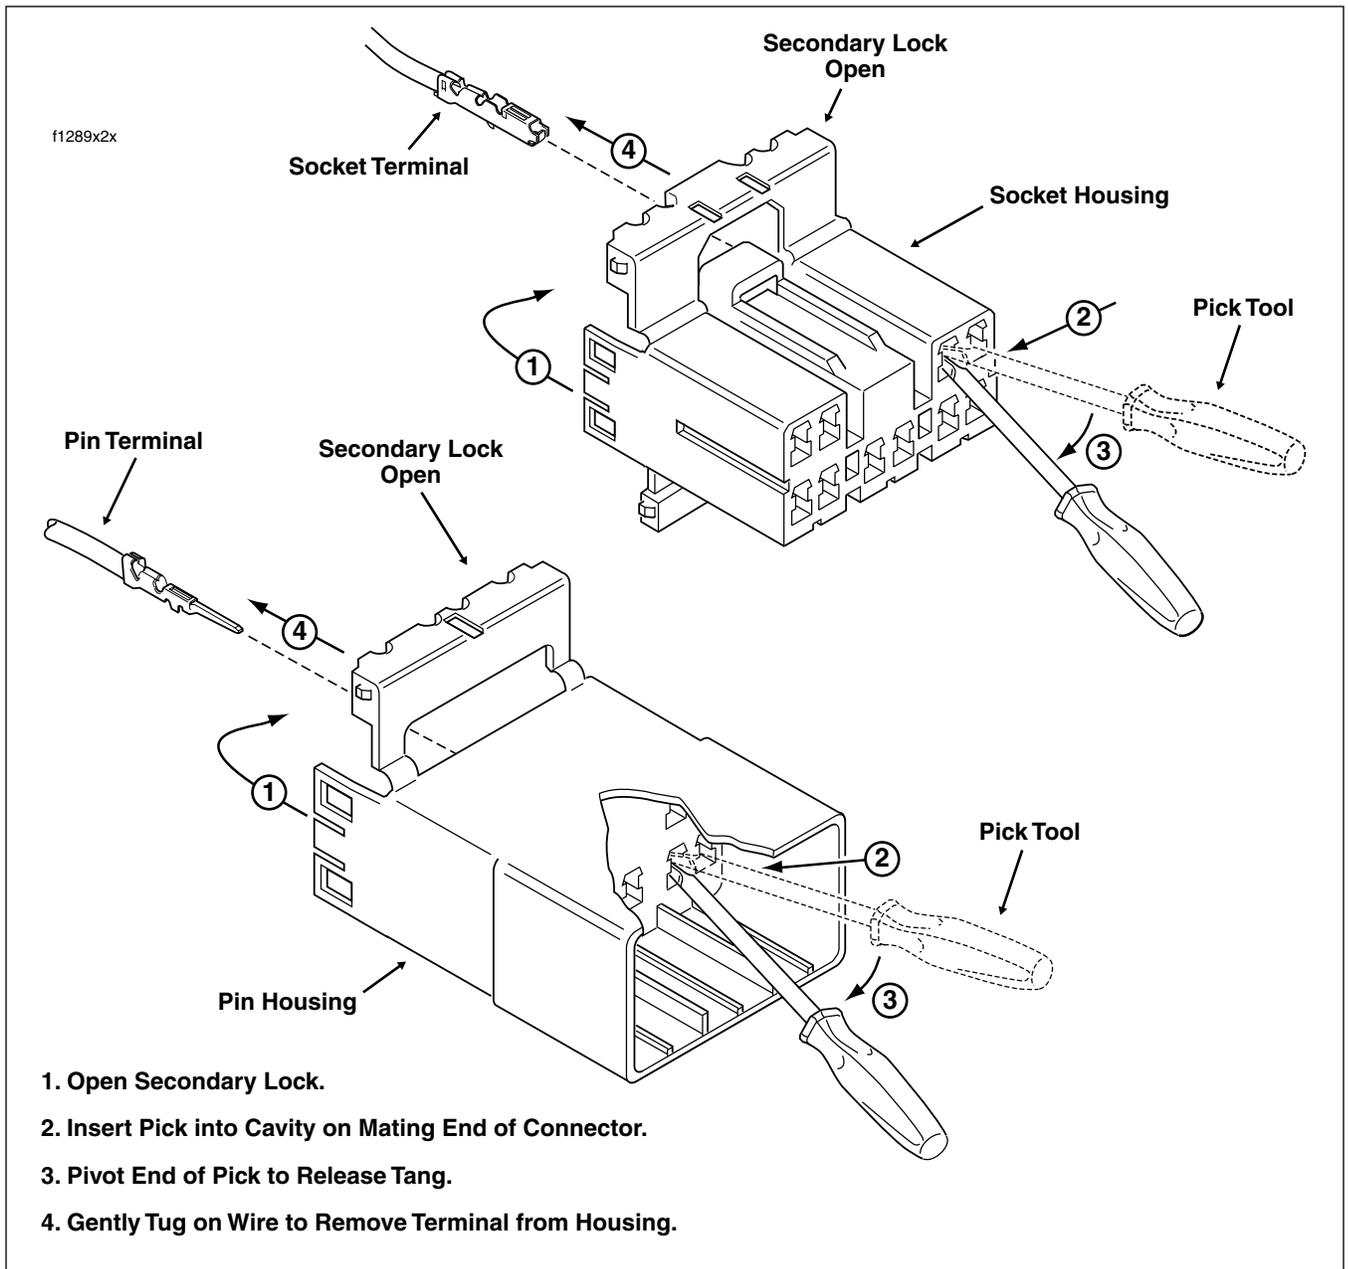

Figure B-11. Release Tang and Back Out Terminals
5. See Figure B-11. With the flat edge against the terminal, insert the pick (Snap-On TT600-3) into the cavity until it stops. Pivot the end of the pick away from the terminal and gently tug on wire to pull terminal from chamber. Do not tug on the wire until the tang is released or the terminal will be difficult to remove. A “click” is heard if the tang